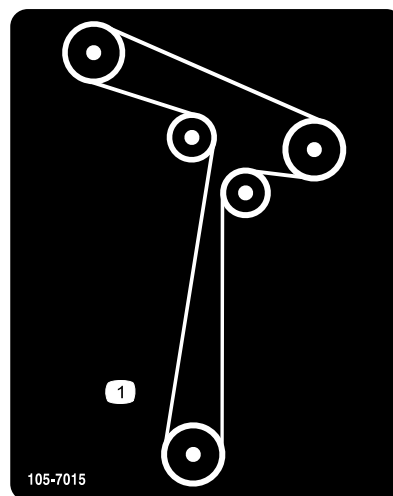
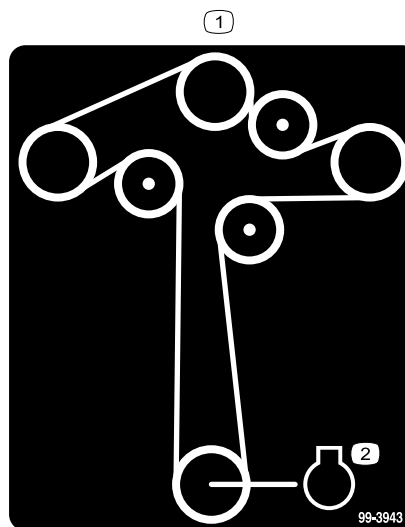

Figure 4
Figure 5
1. Install the mower belt (Figure 4 and Figure 5), if removed. Refer to the Replacing the Mower Belt section in the *Operator's Manual*.